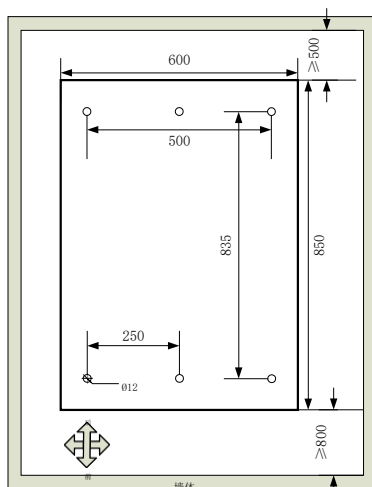

Fig. 3-4 Hole size of 200 kVA
Step 1: Determine the installation position and mark the positioning on the installation surface according to the hole location size diagram. The size diagram of 100 kVA UPS is same as the diagram of 200 kVA UPS, take 200 kVA UPS as an example shown in Fig. 3-4.